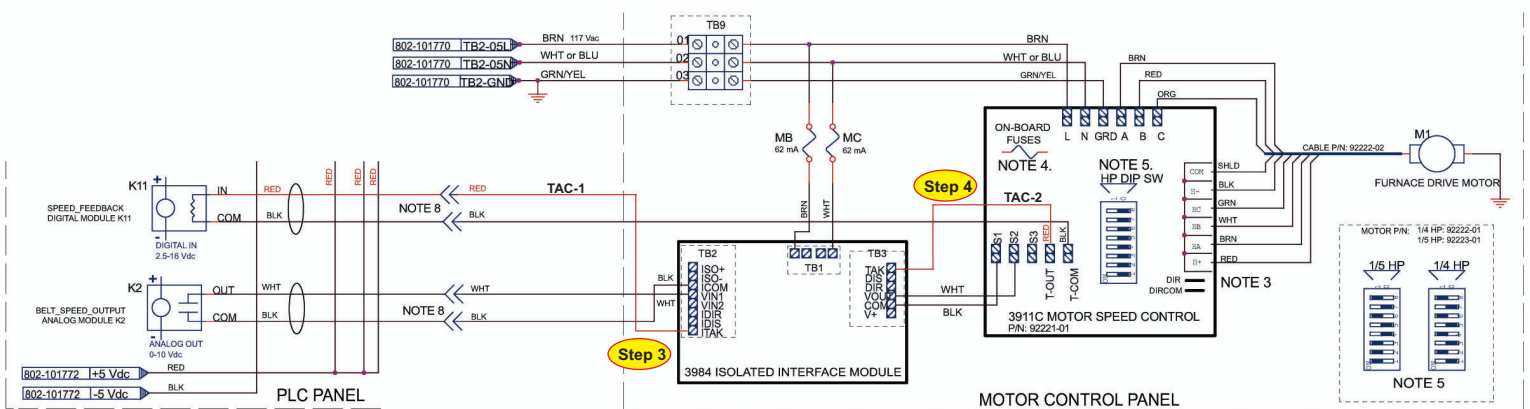

Figure 2. After Rewire (Rev 3)
4. Connect a new red TAC-2 wire from TB3-TAK on 3984 Isolated Interface module to T-OUT on 3911C Motor Speed Control board (figure 2).